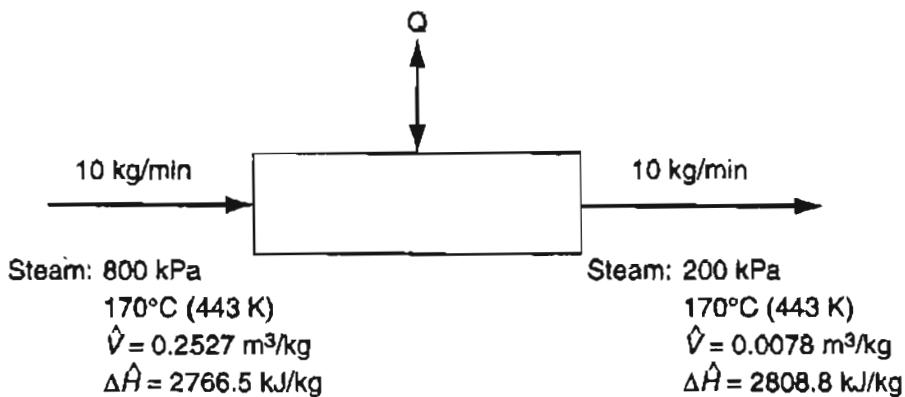

Figure SAT22.5P2
2. Calculate Q for the system shown in Figure SAT22.5 P2.